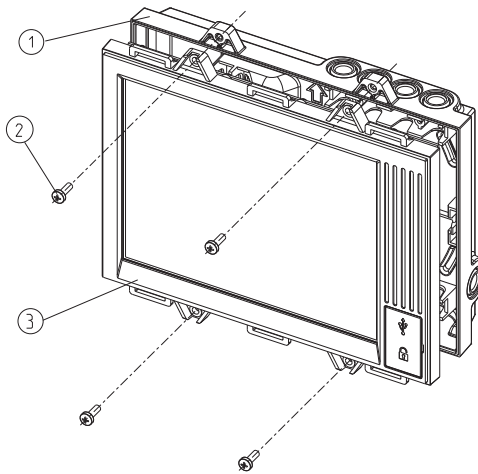

Fig. 7: Installation Overview of Zonal Display Mounting with Deep back cover
- 10 Mount the zonal display front cover (3) to the deep back cover (1) using the four screws (2) supplied. Refer to Fig. 7.
- 11 Tighten the screws (2) and ensure that the assembled unit is firmly mounted on the wall.